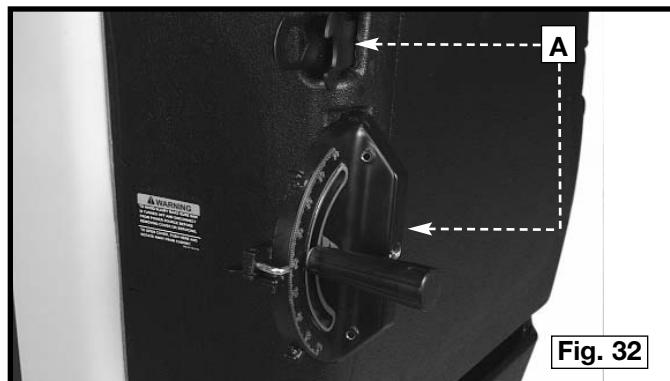

Fig. 32
You can store the miter gauge and arbor wrenches in the slots (A) Fig. 32 provided in the motor cover.